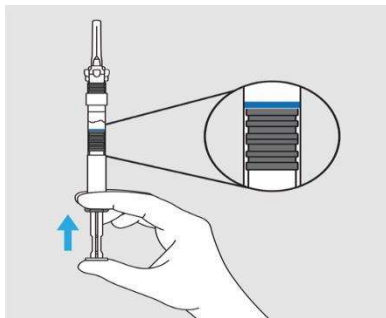

Figure 8: Release diluent
9. Holding the syringe upright, release the diluents by slowly pushing the plunger until the middle stopper reaches the blue line in the middle of the syringe. You should see the diluent flowing into the interior chamber above the blue line. (Figure 8)